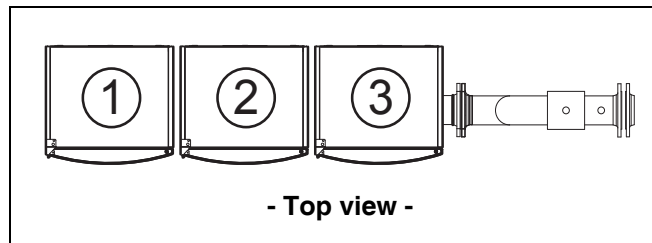
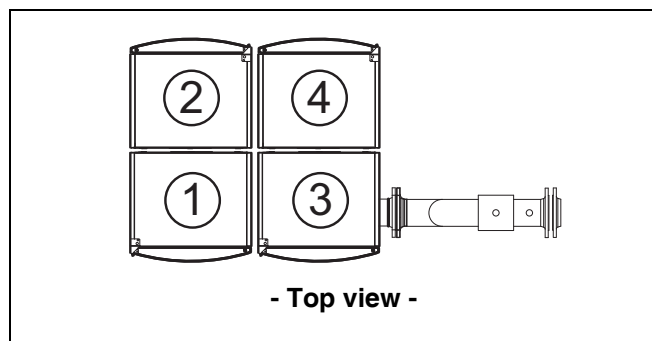

Fig. 8 Installation sequence for a TL-inline configuration
Fig. 9 Installation sequence for TR-back-to-back configuration
- Hang the first boiler on the cascade frame as shown in fig. 8 or fig. 9.
Observe the boiler installation sequence indicated in fig. 8 and fig. 9.